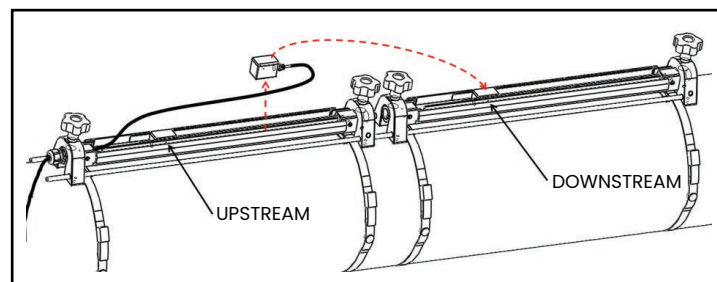

Figure 16: Moving the downstream transducer
- b. Remove the downstream transducer from the first fixture (see figure 16 below), disconnect the transducer cable, and route the cable into the second fixture. Then, install the downstream transducer into the second downstream fixture and reconnect the transducer cable. If you are using solid couplant, apply it to both transducer faces. Then, rotate the transducers back onto the rail.